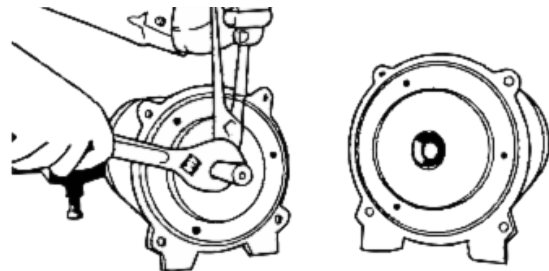

Figure 13: Remove Venturi
4. On 1/2 HP models, hold impeller with pliers and unscrew venturi tube. On 3/4 and 1 HP models, venturi tube is screwed into the pump case (figure 13).